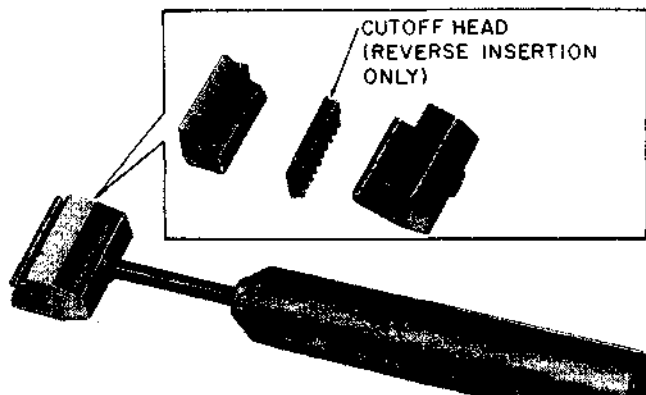

Fig. 9—788J1 Spring-Loaded Impact Tool
2.09 788J1: The 788J1 spring-loaded impact tool (Fig. 9) is used to install 88-type connecting blocks and to seat, or seat and trim, up to ten conductors.